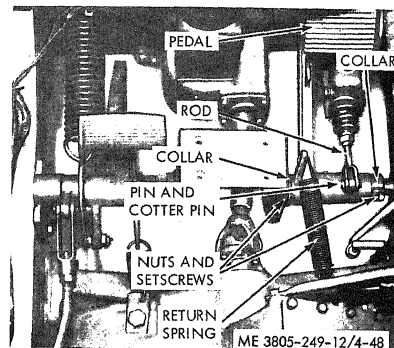

Figure 4-48. Brake pedal and linkage.
a. *Removal.* Refer to figure 4-48.
- (1) Remove the floor plates (para 4-58).
- (2) Remove the return spring.